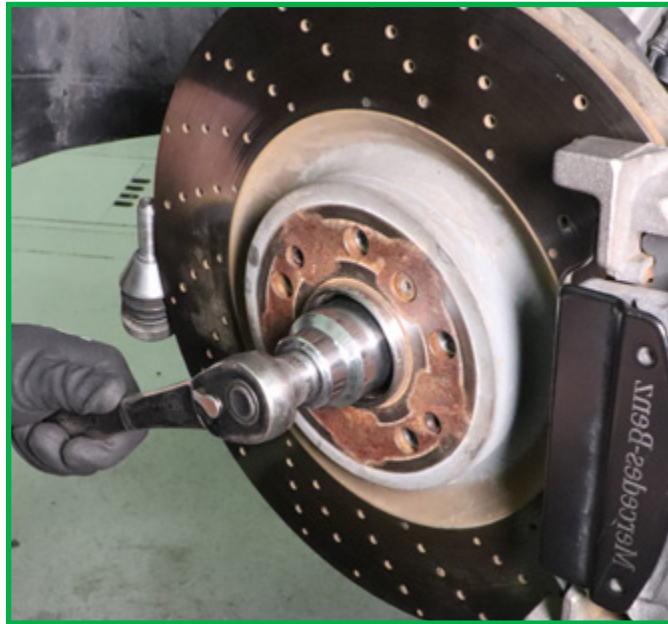

FIGURE 37
10. Reinstall axle nut and tighten to manufacturer's specifications. (Figure 37)